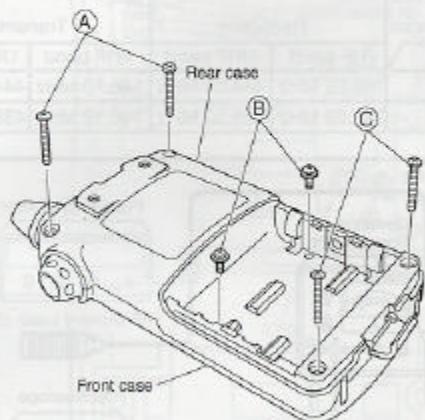

Figure 4-1
- Remove the battery cover, and place the transceiver as shown in figure 4-1.
- Remove the two screws ④, two screws ⑤ and two screws ⑥.